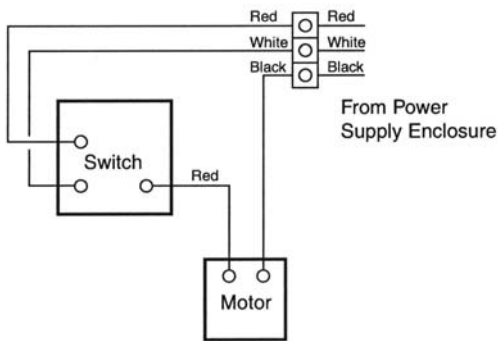

Fig.11
10. Connect the wires to the terminal block. Connect red to red, white to white and black to black (Fig. 11 and 12).